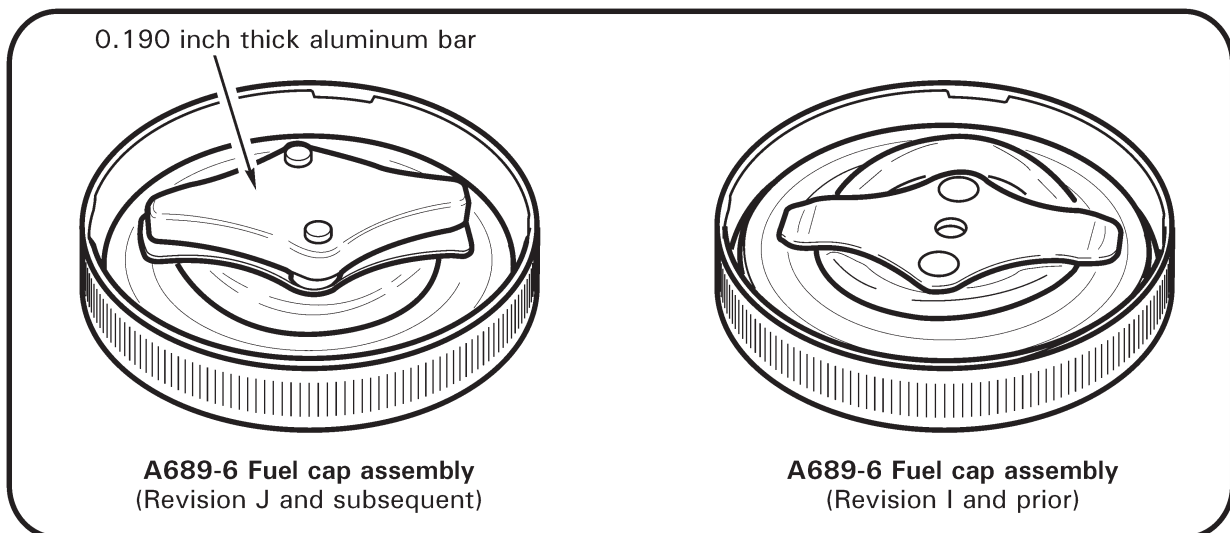

FIGURE 2-4A A689-6 FUEL CAPS
**Fuel Cap(s):** Refer to Figure 2-4A. Verify A689-6 fuel cap is revision J or subsequent if bladder tanks are installed (revision J or subsequent caps may also be used on all-aluminum tanks). Inspect condition. Verify no deterioration of gasket(s). Verify security when closed. Refer to R22 SB-107; verify cap decal is legible and properly installed, and alignment marks on cap and tank align when cap is fully closed. \_\_\_\_\_